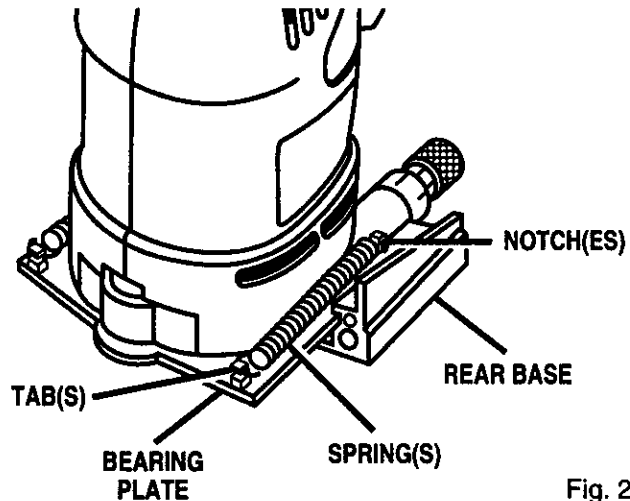

Fig. 24
- Using a pair of needle nose pliers, stretch and release springs from tabs on bearing plate. See Figure 24.